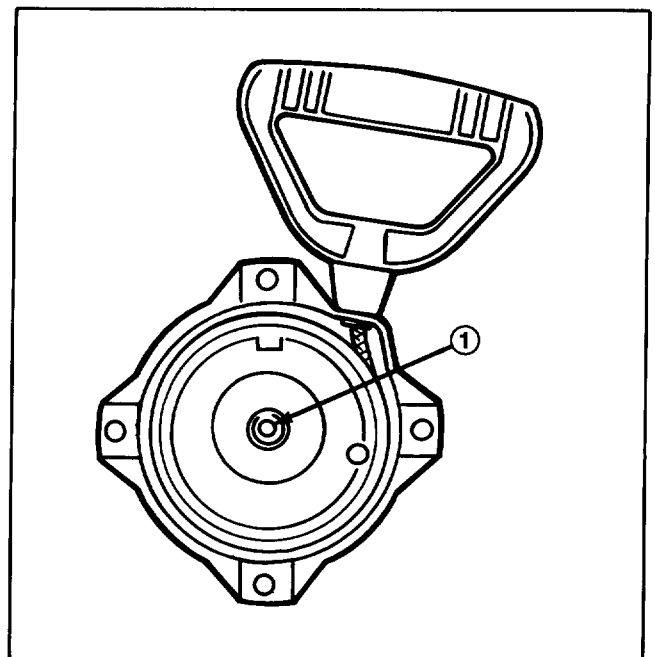

Figure 2
1. Remove (4) screws or nuts, depending on model of snowthrower, securing recoil starter assembly to blower housing. Remember position of starter handle for reassembly.
2. If recoil assembly is equipped with a center plug in housing (Fig. 2), push it out from back side and proceed to step 4, if not, refer to step 3 for further instruction.